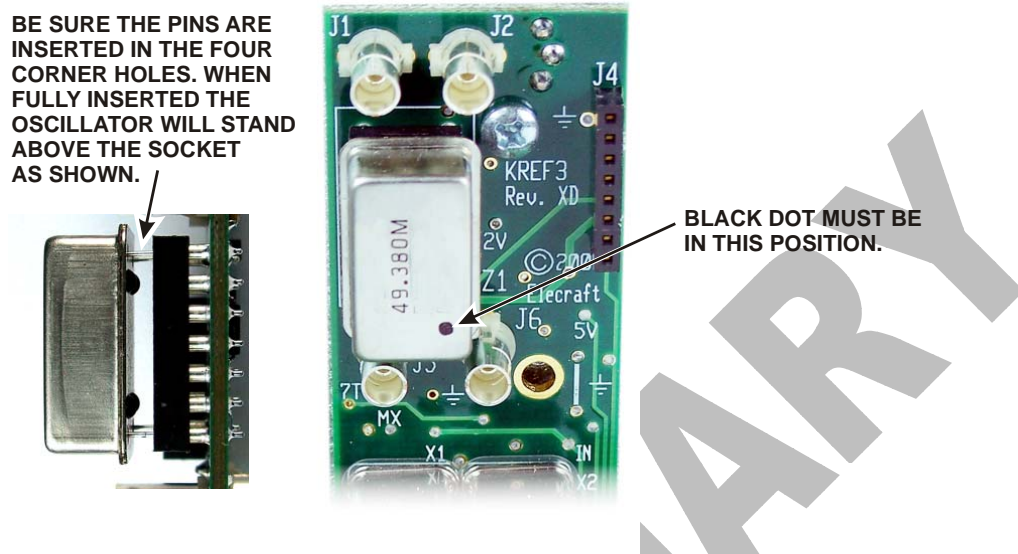

Figure 51. Installing KREF3 Oscillator Module.
□ Install Oscillator module in socket Z1 on the KREF3 board as shown in Figure 51. Be especially careful to ensure all four pins go into the corner holes in the socket and that the black dot on the oscillator is at the corner nearest J6.